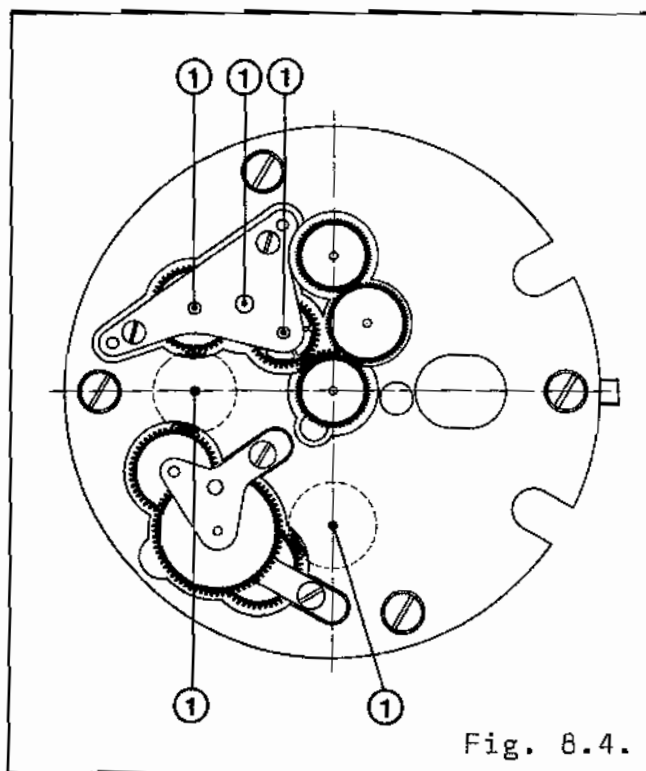

Fig. 8.4.
4.54 Oil the four pivots of the minute recorder mobiles and the pivot of the hour recorder mobile (fig. 8.4).